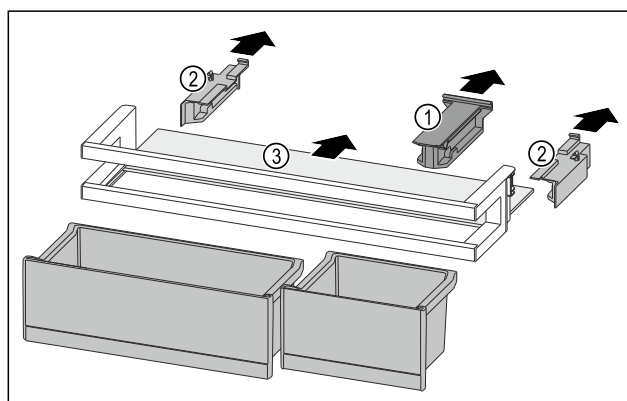

Fig. 85
- Pull off the holding part Fig. 85 (1).
- Pull off the side parts Fig. 85 (2).
- Remove the shelf Fig. 85 (3).